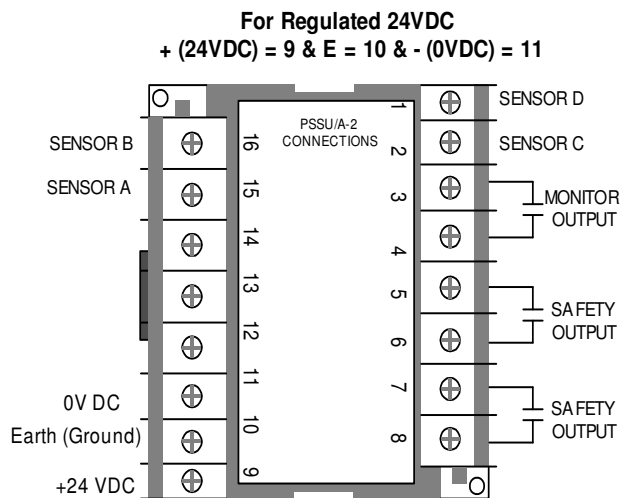

Figure 3
**GENERAL** - The connections for the PSSU/A2 control unit are shown in Figure 3. Crimped ferrules should be fitted on all stranded wires. It is recommended that electrical installation be performed in the order described below.
**POWER CONNECTION** - Connect the input power to the control unit as referred to in Figure 3 and Table 1. Pay particular attention to the notes referring to jumper terminal numbers. The maximum power consumption is 6 VA.
**FOR THE OUTPUT CONTACT CONFIGURATION REFER TO FIGURE 3.**